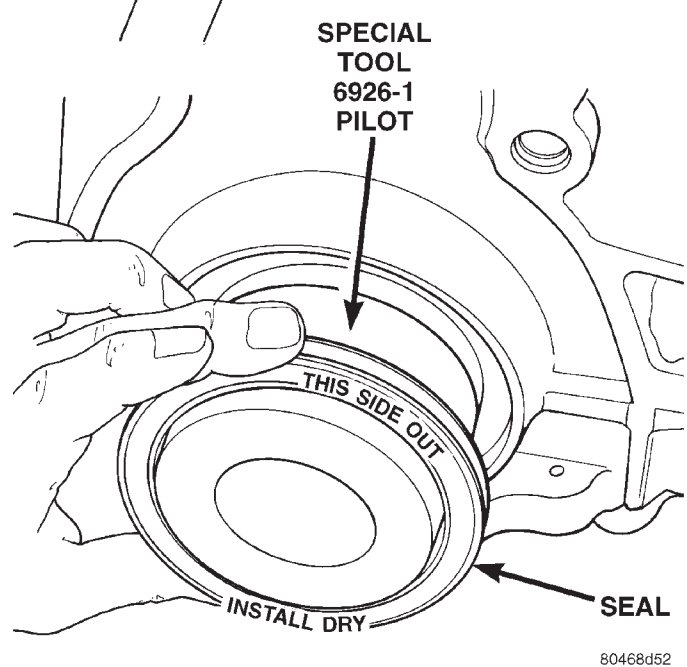

Fig. 98 Rear Crankshaft Seal and Special Tool 6926-1
- (1) Place Special Tool 6926-1 on crankshaft. This is a pilot tool with a magnetic base (Fig. 98).
- (2) Position seal over pilot tool. Make sure you can read the words **THIS SIDE OUT** on seal (Fig. 98). Pilot tool should remain on crankshaft during installation of seal. Ensure that the lip of the seal is facing towards the crankcase during installation.